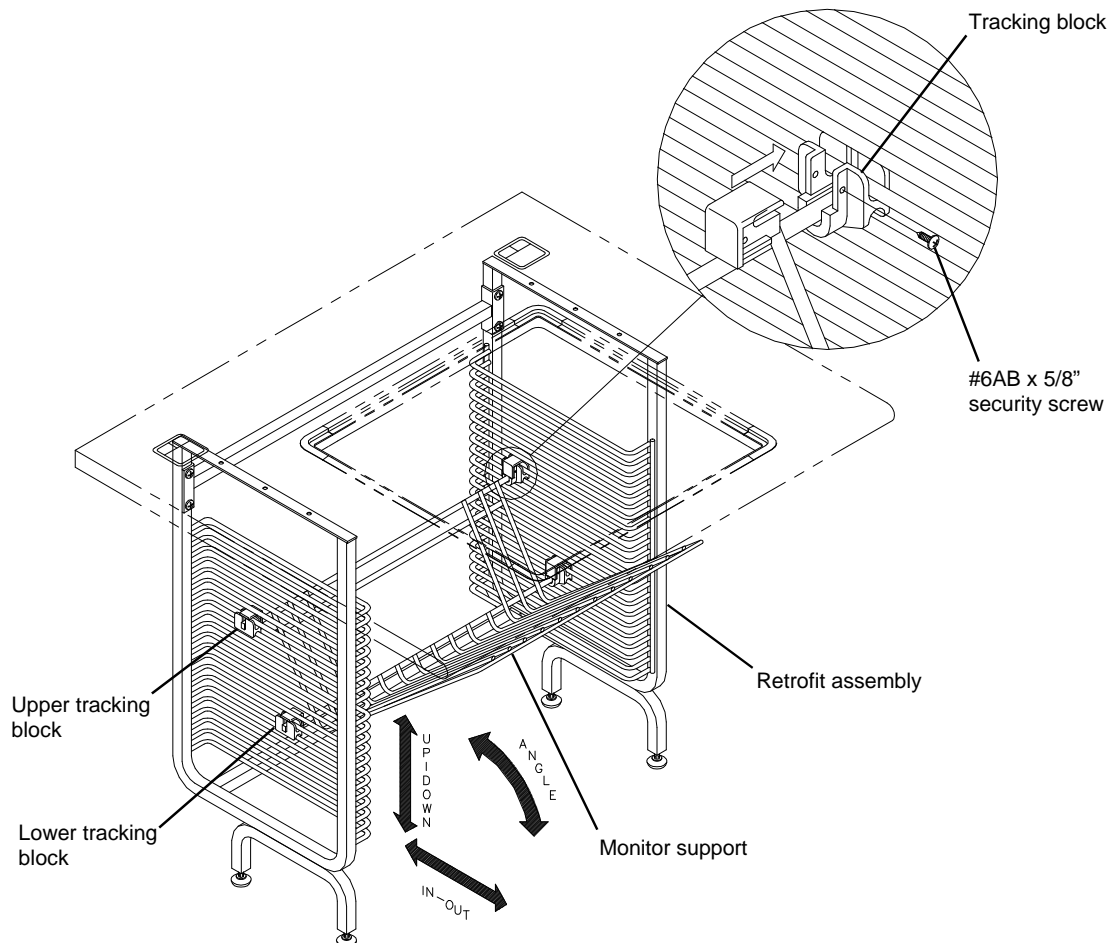

Figure 8
1. The **Monitor Support** is installed using the plastic **Tracking Blocks**. See **Figure 8**, detail a. For standard size monitors, a good starting point is nine bars down (rest the bottom of a Tracking Block on the ninth bar down from the top) and seven bars up (rest the bottom of a Tracking Block on the seventh bar from the bottom). **NOTE:** Do not install the security screws at this time.
3. To make angle adjustments, move either the top or bottom **Tracking Blocks** independently of each other. For height adjustments, move both bottom and top **Tracking Blocks**. To adjust the viewing distance, simply slide the **Monitor Support** forward or backward. When the adjustments are completed, install the #6AB x 5/8" Security screws. See **Figure 8**.